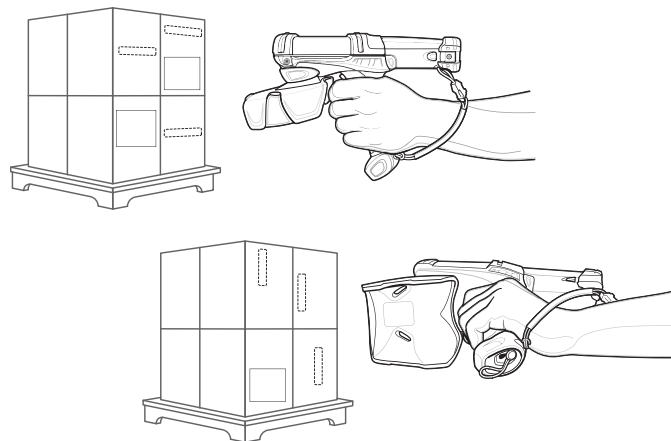

Figure 2-19 RFID Tag Read
3. Position the mobile computer horizontally or vertically (as shown in Figure 2-19), depending on the orientation of the tag.